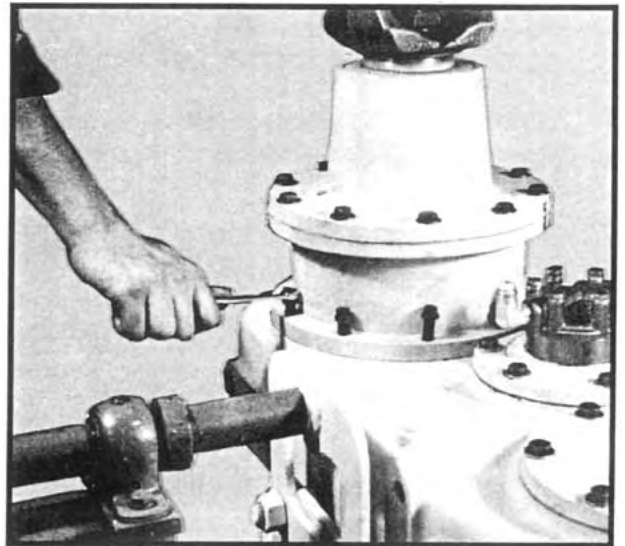

Fig 10
- Remove the (8) cap screws and washers that secure the bearing carrier to the differential lockout housing. Lift off the bearing carrier (including the ball bearing assembly). Discard the gasket.
- Remove the (4) cap screws securing the air shift cylinder cap. Lift off the cylinder and cap.
- Remove the (4) cap screws securing the lockout housing cover plate. Remove the cover plate and discard the gasket.
- Remove the (10) 12-point cap screws securing the outer differential housing to the transfer case housing. See Figure 10. Lift off the rear output carrier and shaft assembly and set aside. Discard the gasket.